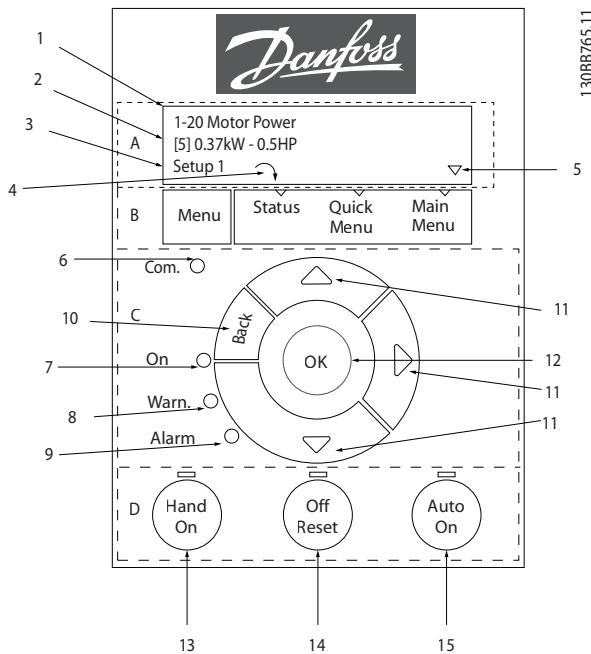

Figure 2.1 Local Control Panel (LCP)
*Figure 2.1* describes the information that can be read from the display.
Table 2.1 Legend to Figure 2.1, Part I
Table 2.2 Legend to Figure 2.1, Part II
Table 2.3 Legend to Figure 2.1, Part III